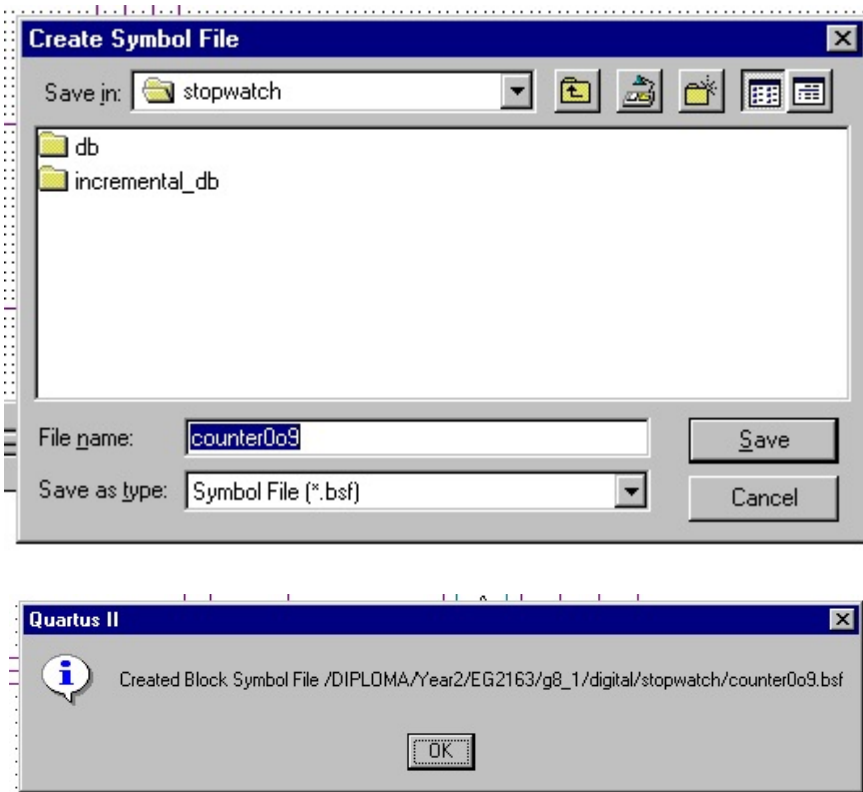

Figure 3.6 Create symbol for the *counter0to9* circuit
3. Create symbol for the *counter0to9* circuit. **Select File > Create/Update > Create Symbol for Current File** as shown in Figure 3.6.